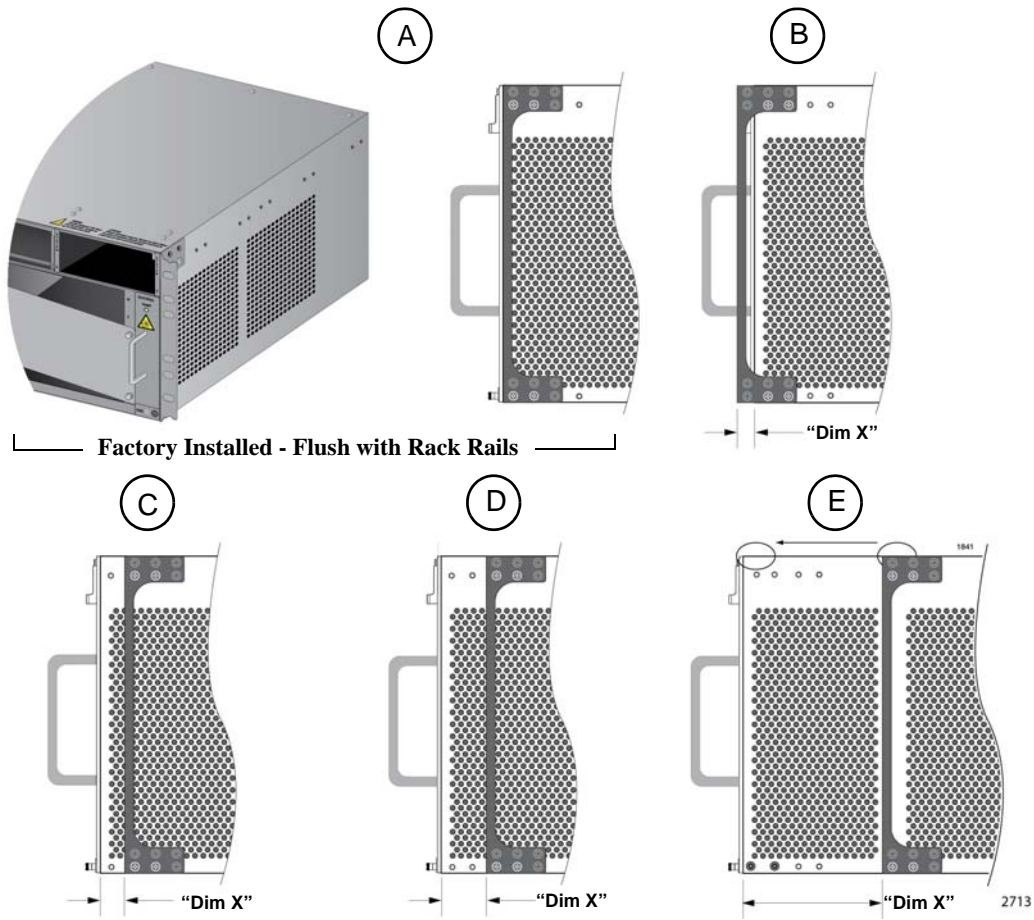
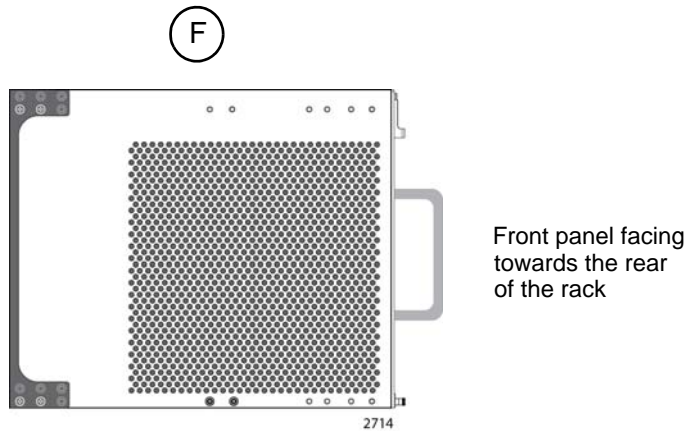

Figure 44. Rack Mounting Bracket Locations
Figure 45. Rack Bracket Locations for Reverse Position of Chassis
The different bracket positions are listed in Table 28 on page 105 and illustrated in Figure 44 on page 106 and Figure 45 on page 106. Please review the following information before moving the brackets:
- ❑ To install the rack mount brackets in position “E,” you have to remove the two chassis screws from the bottom-middle section of the chassis and re-install them in front where the rack mount bracket screws were originally, as shown in Figure 44 on page 106.
- ❑ The dimension (X) between the front panel and the rack rails is given for each rack mounting bracket position in Table 28.